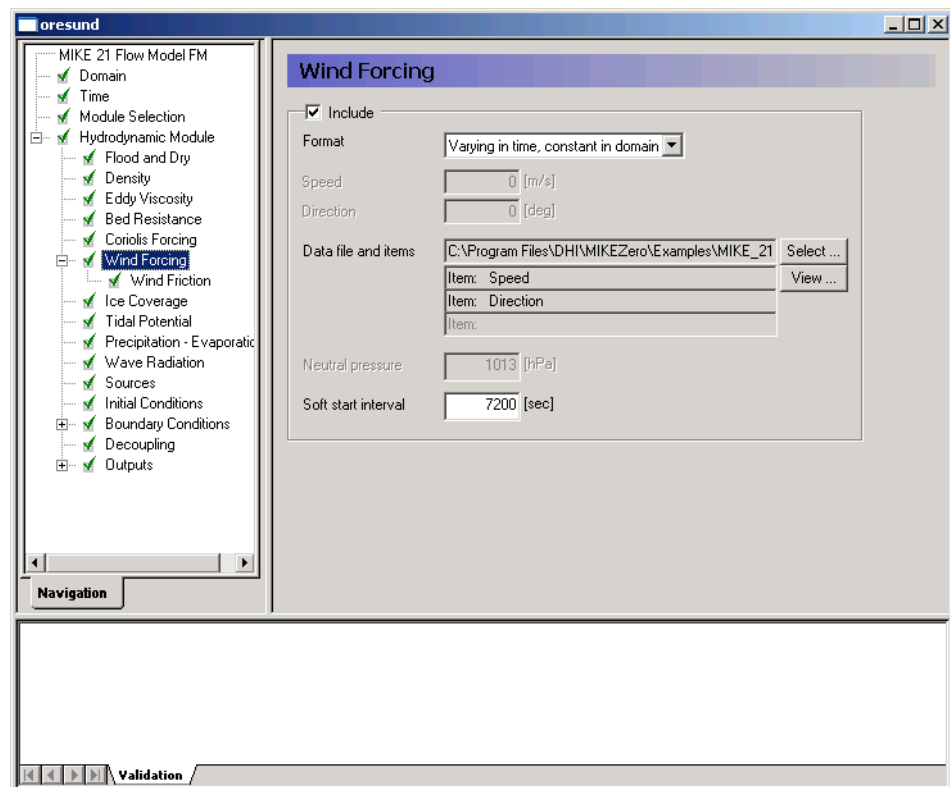

Figure 5.12 MIKE 21 Flow Model FM: Wind Forcing
**Note** that an easy way to see the wind data file is to simply click  in the Wind Forcing dialogue, see Figure 5.12.